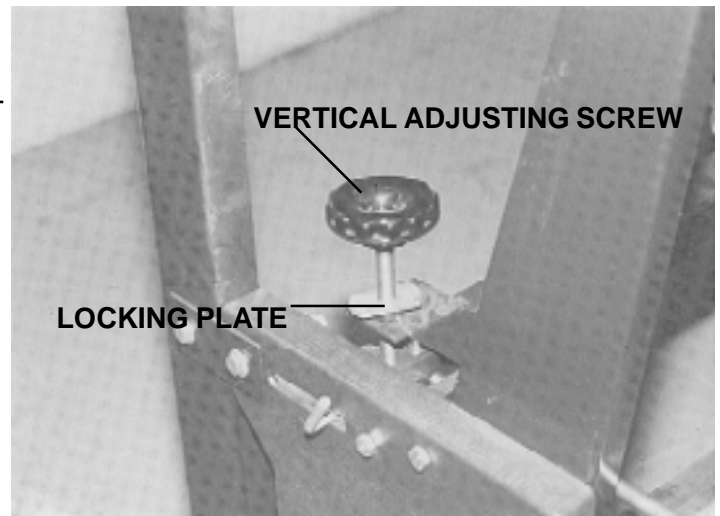

Fig. 13
- E. If the left side is lower than the right, turn the vertical adjusting screw in the pivot assembly clockwise raising the mounting bar and the reel until the center shaft of the reel lightly touches the extended indicator rod. (See Fig. 13)
J. Now lock the vertical adjusting screw in place with locking plate. (See Fig. 13 & 14)